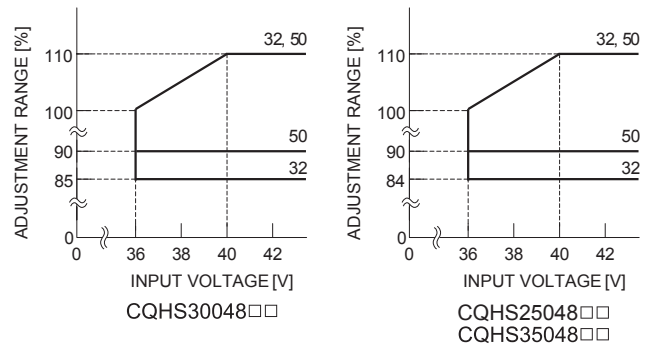

Fig. 4.7 Output voltage adjustment range
(4) Input voltage derating
■When the input voltage is 36 - 40VDC, the output voltage adjustment range becomes as shown in Fig. 4.7.